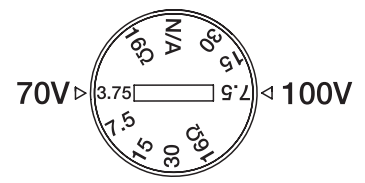

Figure 5
1. Remove the magnetic grille and set the transformer tap switch located to the desired wattage or to 16Ω for low-impedance operation (Figure 5). Reattach the grille.